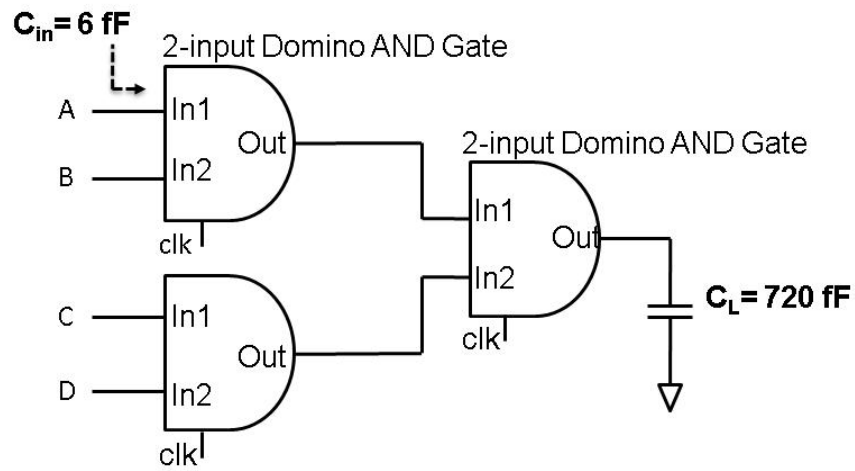
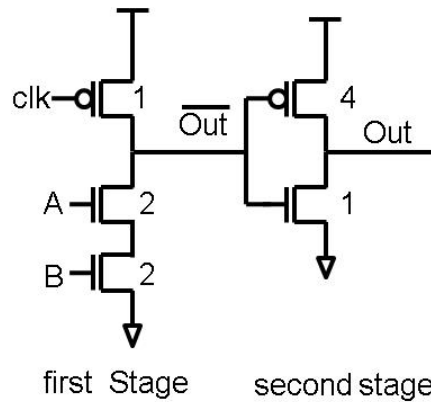

Fig.3b 4-input AND gate with domino logic in Fig.3a.
Fig.3c New domino logic for 4-input AND gate in Fig.3b
- (d) **(2 pts)** One engineer developed new domino logic as shown in Fig.3c. We use this new domino gate for implementing the 4-input AND gate of Fig.3b. Describe qualitatively how this change impacts the evaluation and precharge times of the gate in comparison with the results of parts (b-c).